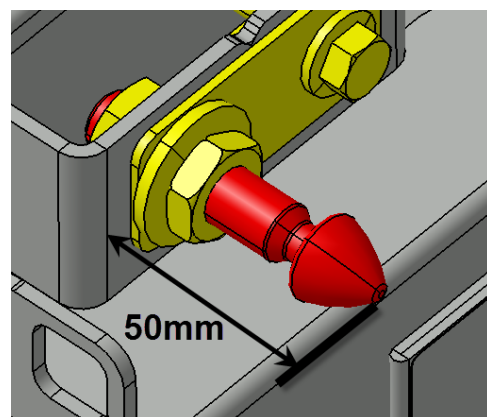

FIGURE 63
11. Before adjusting the pin, make sure that it doesn't exceed more than 2" (50mm) at the first closing of the door (FIGURE 63). Damage to the door can result if this condition is not respected.